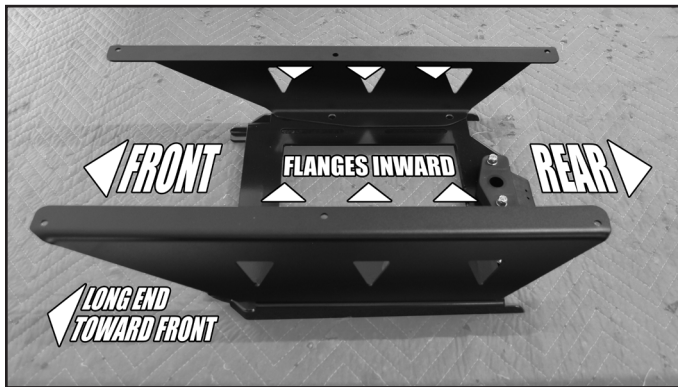

Figure 1.
4. Attach the Cargo Rack Mount Brackets to the Seat Mount. Use a 9/16 socket and wrench, with the supplied 3/8-24 X 1 GR8 HEX HEAD CAP SCREWS, 3/8-24 GR8 NYLON INSERT LOCK NUTS and 3/8 AN FLAT WASHERS to fasten the Cargo Rack Mount Brackets to either the OE Seat Mounts or CSD Racing Steel Seat Mounts. Orient the Mount Brackets so that the flanges with the bolt holes are pointed inward, toward the center of the seat mount, with the long, sharper angled end pointed in the direction of the front of the seat mount. The shorter angled end will be toward the rear. See Figure 1 for reference. Do not fully tighten these fasteners yet; just leave them finger-tight.